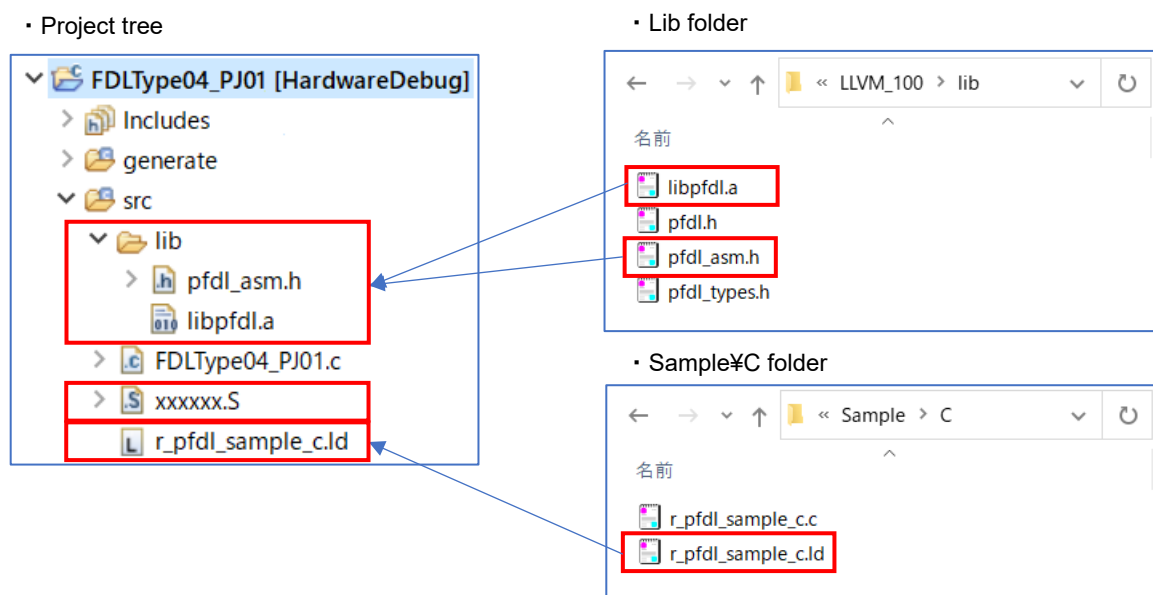

Figure 6-21. Specifying the Source and Include Files (LLVM)
- LLVM: Register user program file (“xxxxxx.S”), the data flash library files “pfdl_asm.h”, “pfdl.lib” and “r_pfdl_sample_c.ld” in the “src” folder output by e² studio. (Figure 6-21)